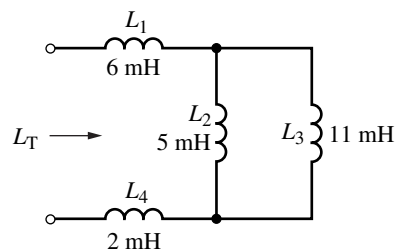

FIGURE 13-45
36. Referring to Figure 13-45, an inductance meter measures $L_T = 8$ mH. What is the likely fault?